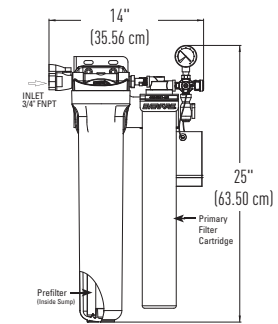

Figure 1 - Insurice PF Single - 7SI System
- Use the predrilled mounting holes in the manifold bracket as guides. Mark and drill anchor holes. Mount securely. See Figures 1 – 4.